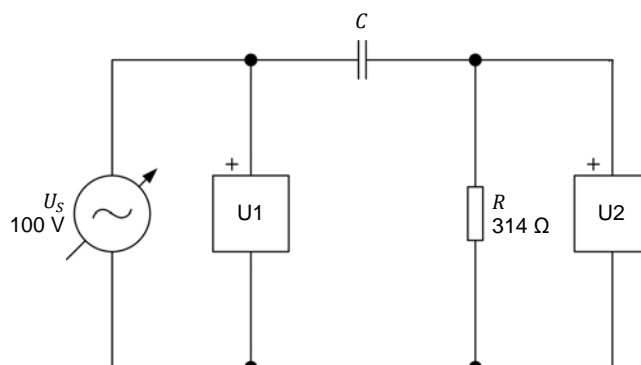

Figure 1-16. AC circuit with a resistor and a capacitor.
17. Modify the circuit so that it is as shown in Figure 1-16 (replace the inductor by a capacitor). This circuit contains a resistor R and a capacitor C . Capacitors are studied in the next unit of this manual.
The value of capacitor C in the circuit of Figure 1-16 is referred to as the capacitance and is expressed in microfarads (μF). The capacitance value to be used is $5.06 \mu\text{F}$.